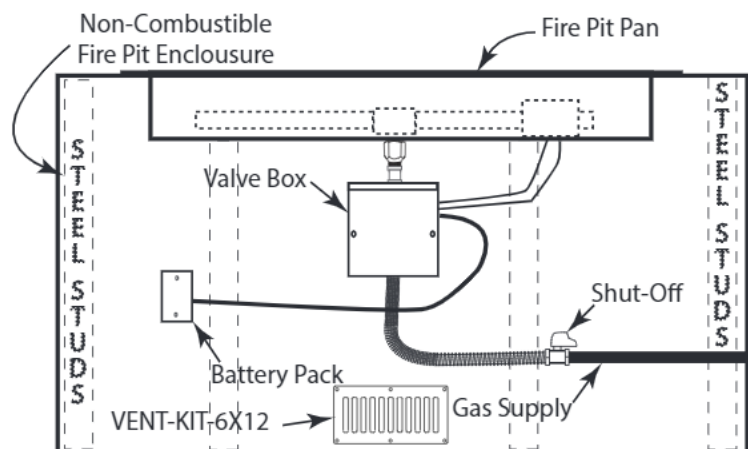

Fig. 4 Typical installation.
7. Normal operation of the fire pit is with a battery pack that is supplied with your system (Fig 4). The battery pack has 12-feet of black sleeved wire that is to be passed through the junction box provided. This wire should not be cut or spliced and the junction box can be placed in the facing of the vertical finish of the fire pit, if you place the wire under ground you should install those wires into an approved protective conduit/sleeve material.